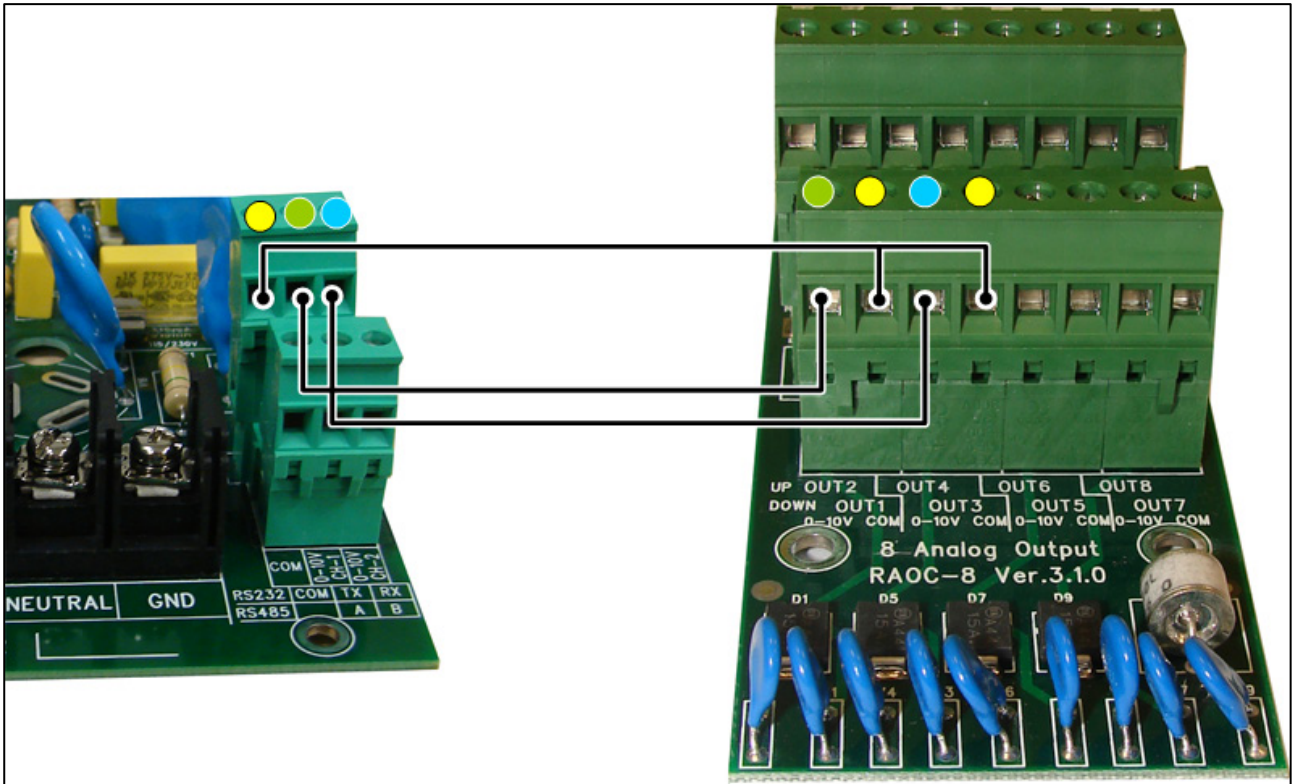

Figure 6: RLD (Board Version 2.1) to RAOC-8 (Analog Output) Wiring Diagram
1. Connect the 0 – 10 VDC (+) and COM (–) wires from the external device to the terminal ports "0-10V A", "0-10V B" and COM (Figure 6 and Figure 7).